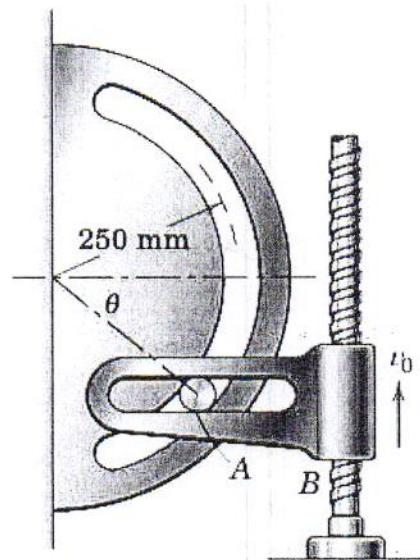

Fig. Q6
6. In the design of a timing mechanism (Fig. Q6), the motion of the pin A in the fixed circular slot is controlled by the guide B, which is being elevated by its lead screw with a constant upward velocity  $v_0 = 2 \text{ m/s}$  for an interval of its motion. Calculate both the normal and tangential components of acceleration of pin A as it passes the position for which  $\theta = 30^\circ$ .